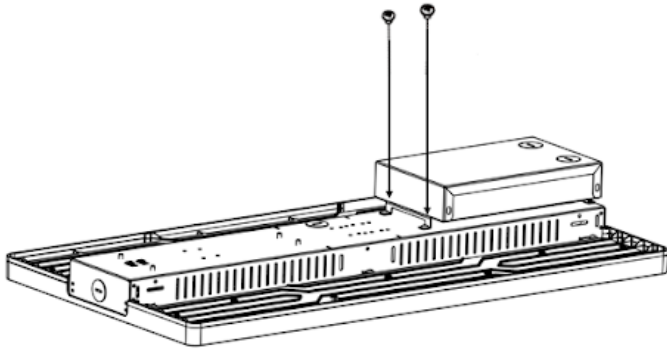

Fig. 5
5. Install the emergency LED driver junction box on the linear high bay with the 4 screws provided (Fig. 5).